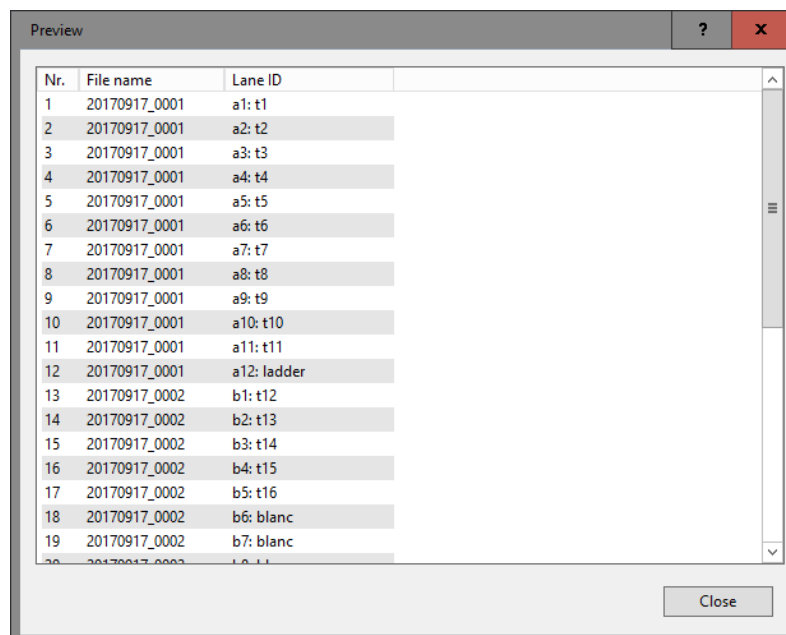

Figure 2.10: Preview.
- 3.5 Press **<Preview>** to check the defined rules (see Figure 2.10 for an example). Close the preview.